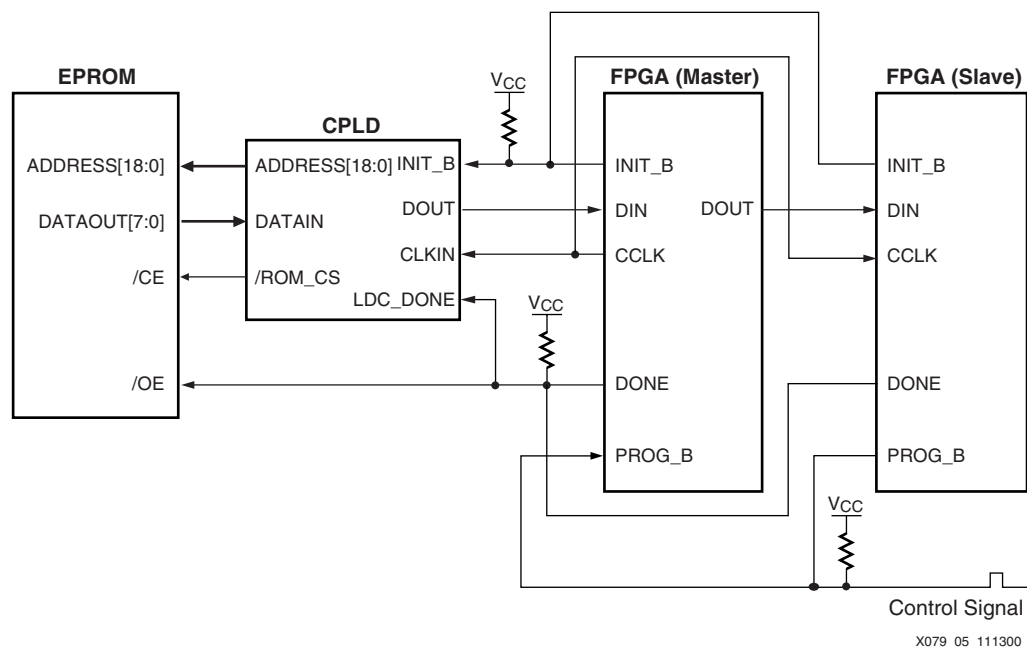

Figure 3-8: Configuring Virtex-II Using a CPLD and Parallel PROM
- XAPP079: *Configuring Xilinx FPGAs Using an XC9500 CPLD and Parallel PROM* (available on [www.xilinx.com](http://www.xilinx.com)) describes an architecture that configures a chain of Virtex-II devices using Master-Serial mode. See Figure 3-8 for an example of FPGA configuration using a CPLD and a parallel PROM.